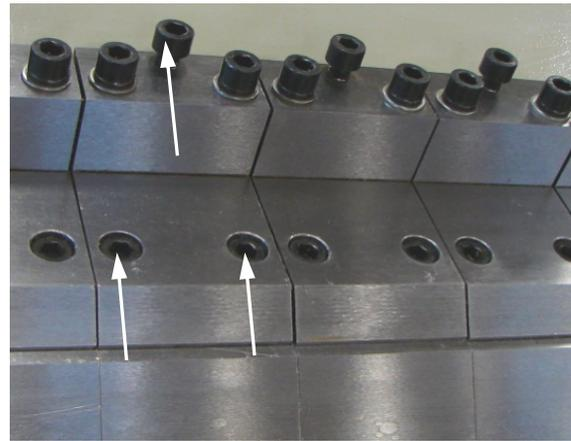

Figure:7-3
4. Loosen the three socket capscrews (fig. 7-3) on all the fingers you are using, with an 8mm hex wrench.